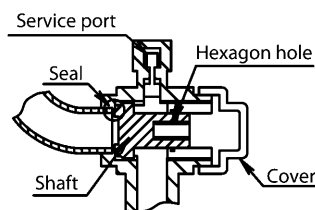

Figure 5
1. The stop valves for indoor-outdoor connecting piping are closed at shipment from the factory. The names of parts are shown in Figure 5.